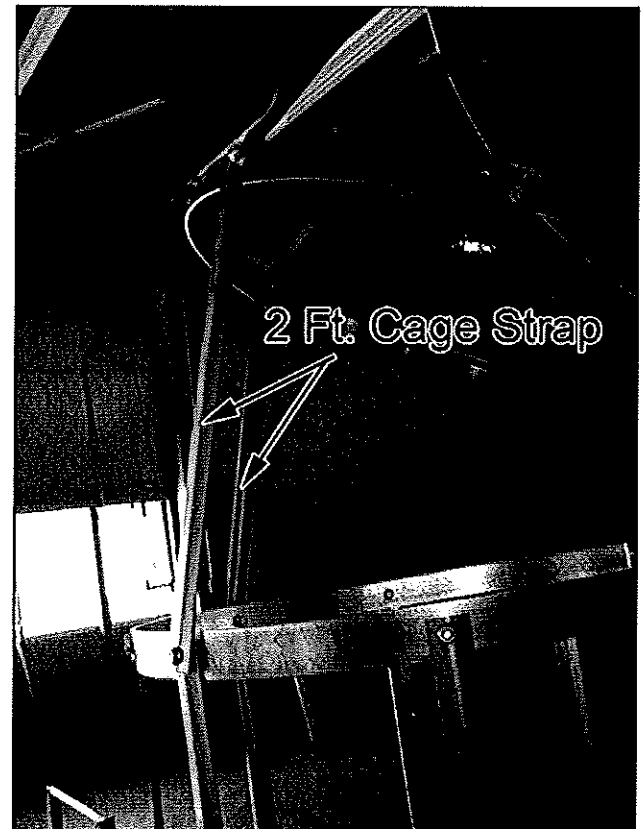

Figure 23
- The distance between the ladders is enclosed with (4) 2' cage straps and (1) cage hoop. See Figure 23. The safety cage hoop is bolted to the ladder connecting brackets. One end of a connecting strap has a 30° bend that is bolted to the lower loop. Two (2) connecting straps connect up to the roof ladder cage and (2) connect down to the top section ladder cage. All connecting straps will share a 5/16018 x 1" bolt with a hoop and ladder strap.